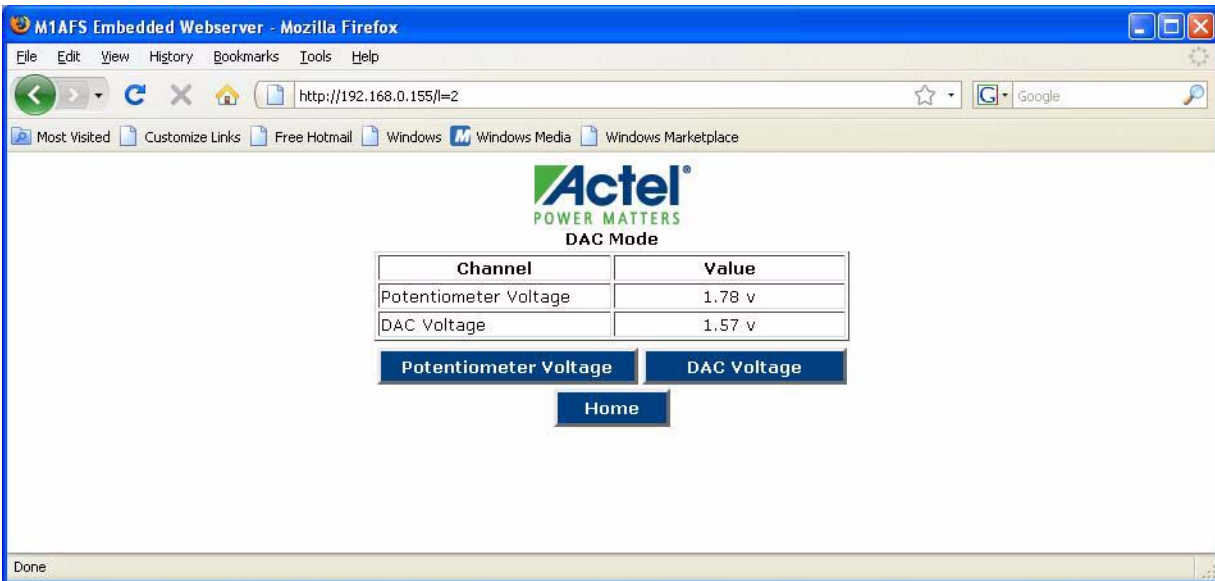

Figure 2-23 · DAC Mode
2. The web page displays Analog readings of the potentiometer and DAC (Figure 2-23). Potentiometer input is used to generate DAC voltage.
5. The web page and OLED displays the varied potentiometer voltage as well as DAC value (Figure 2-23).